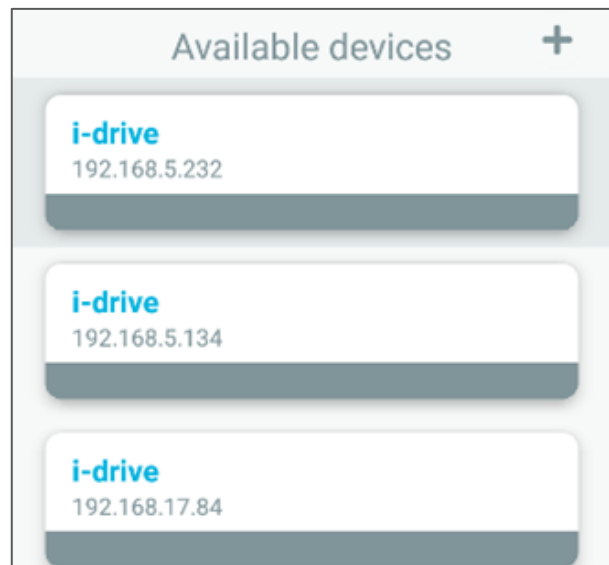

Figure 31
5. The available devices will be shown (Figure 31).